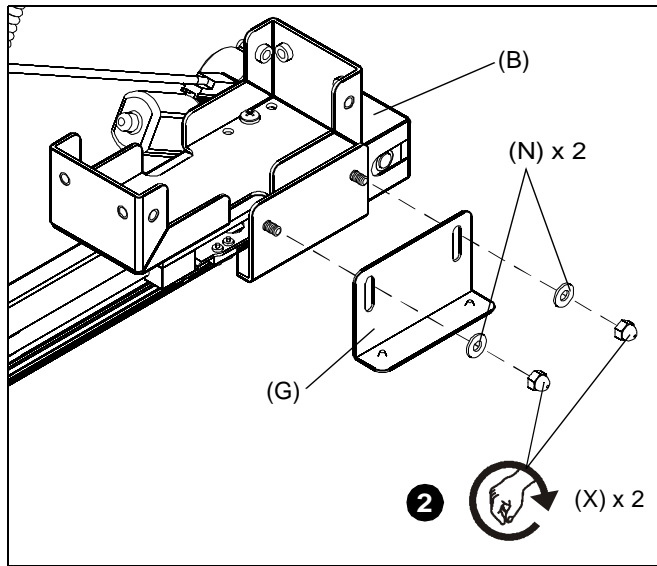

Figure 4
2. Turn actuator assembly (B) on its side and attach art support bracket (G) to the lower end using two 1/4" flat washers (N) and two 1/4-20 acorn nuts (X). (See Figure 4)